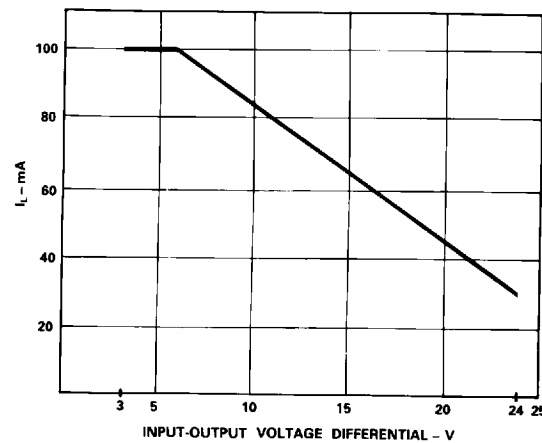
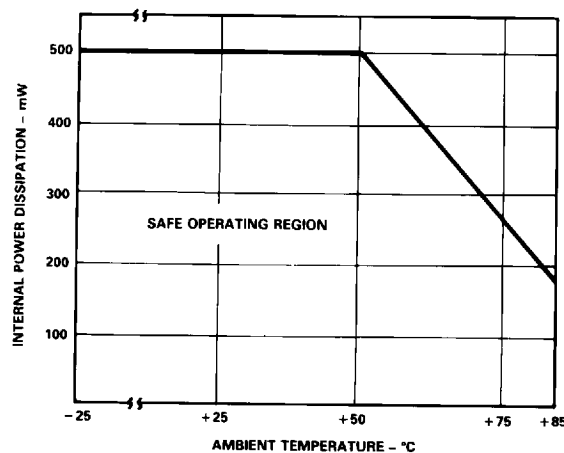

Figure 12. Excitation Source Load Current vs. Input-Output Voltage Differential,  $\le 25^{\circ}$ C
Figure 13. Excitation Source Internal Power Dissipation vs. Temperature
**Bridge Excitation:** The adjustable bridge excitation is specified over a wide regulator input voltage range (+9.5V to +28V). Maximum load current  $I_L$  as a function of regulator input-output differential voltage is shown in Figure 12. The maximum output current also depends on ambient temperature, and above +50 $^{\circ}$ C a derating factor of 2mA/ $^{\circ}$ C must be applied. The safe operating region for internal power dissipation vs. temperature is graphed in Figure 13.